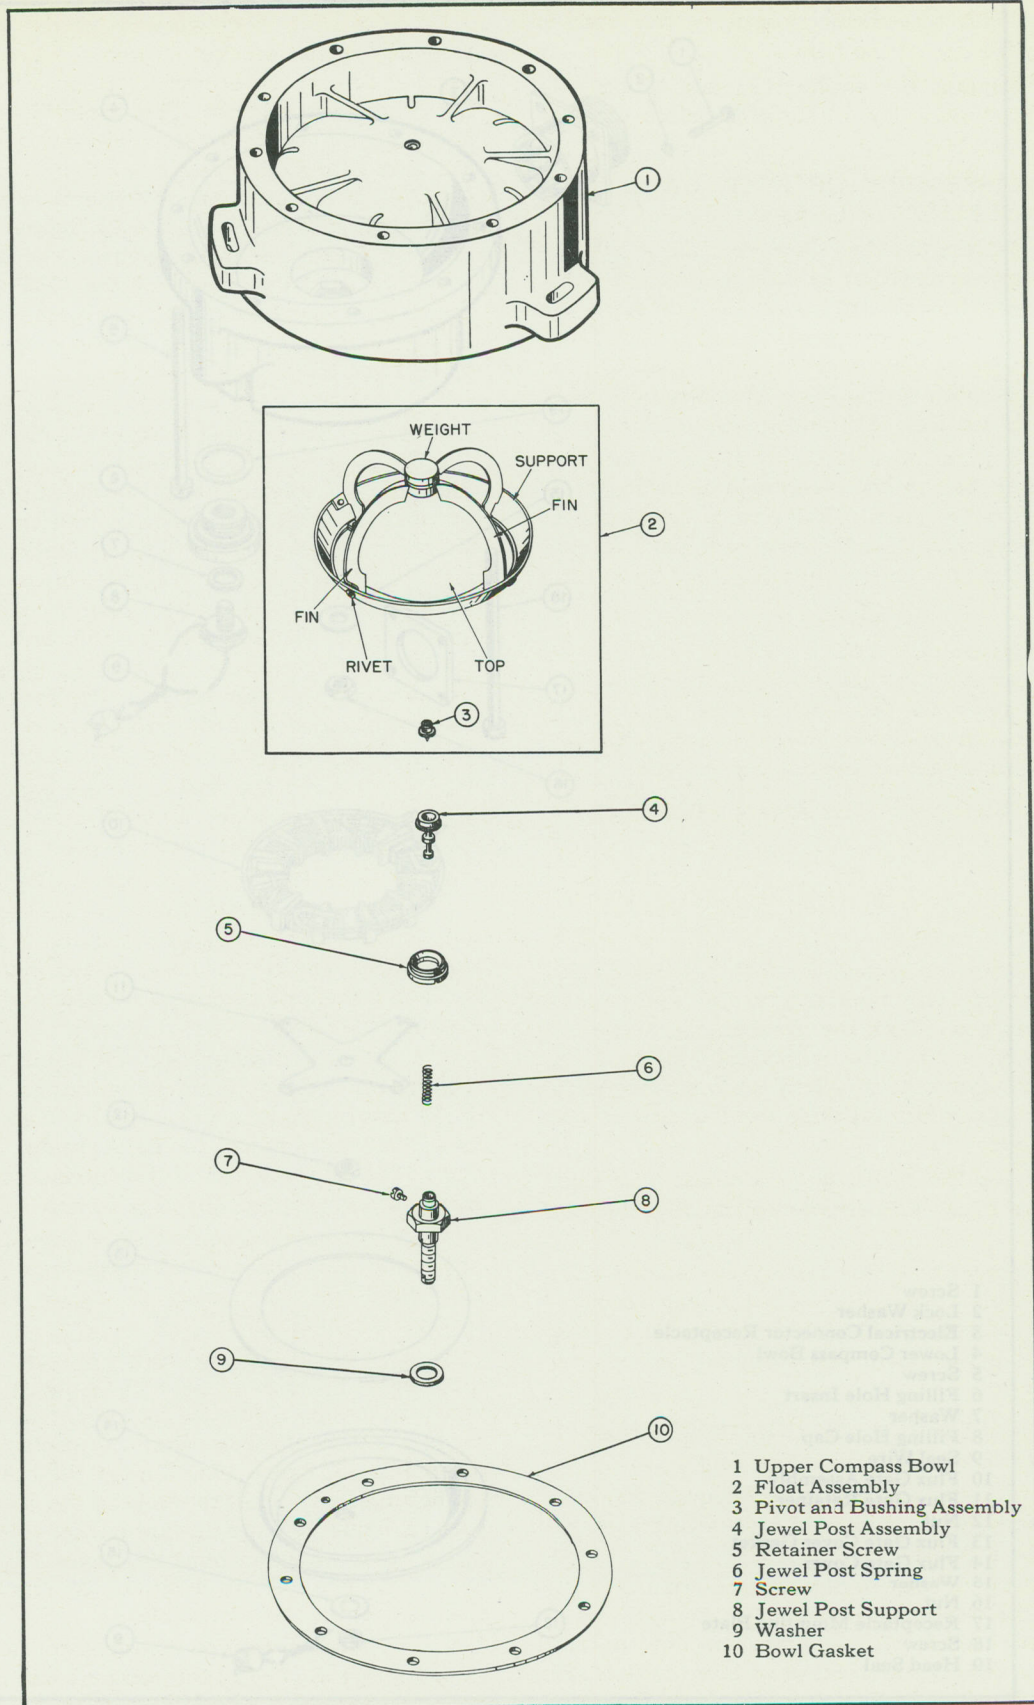
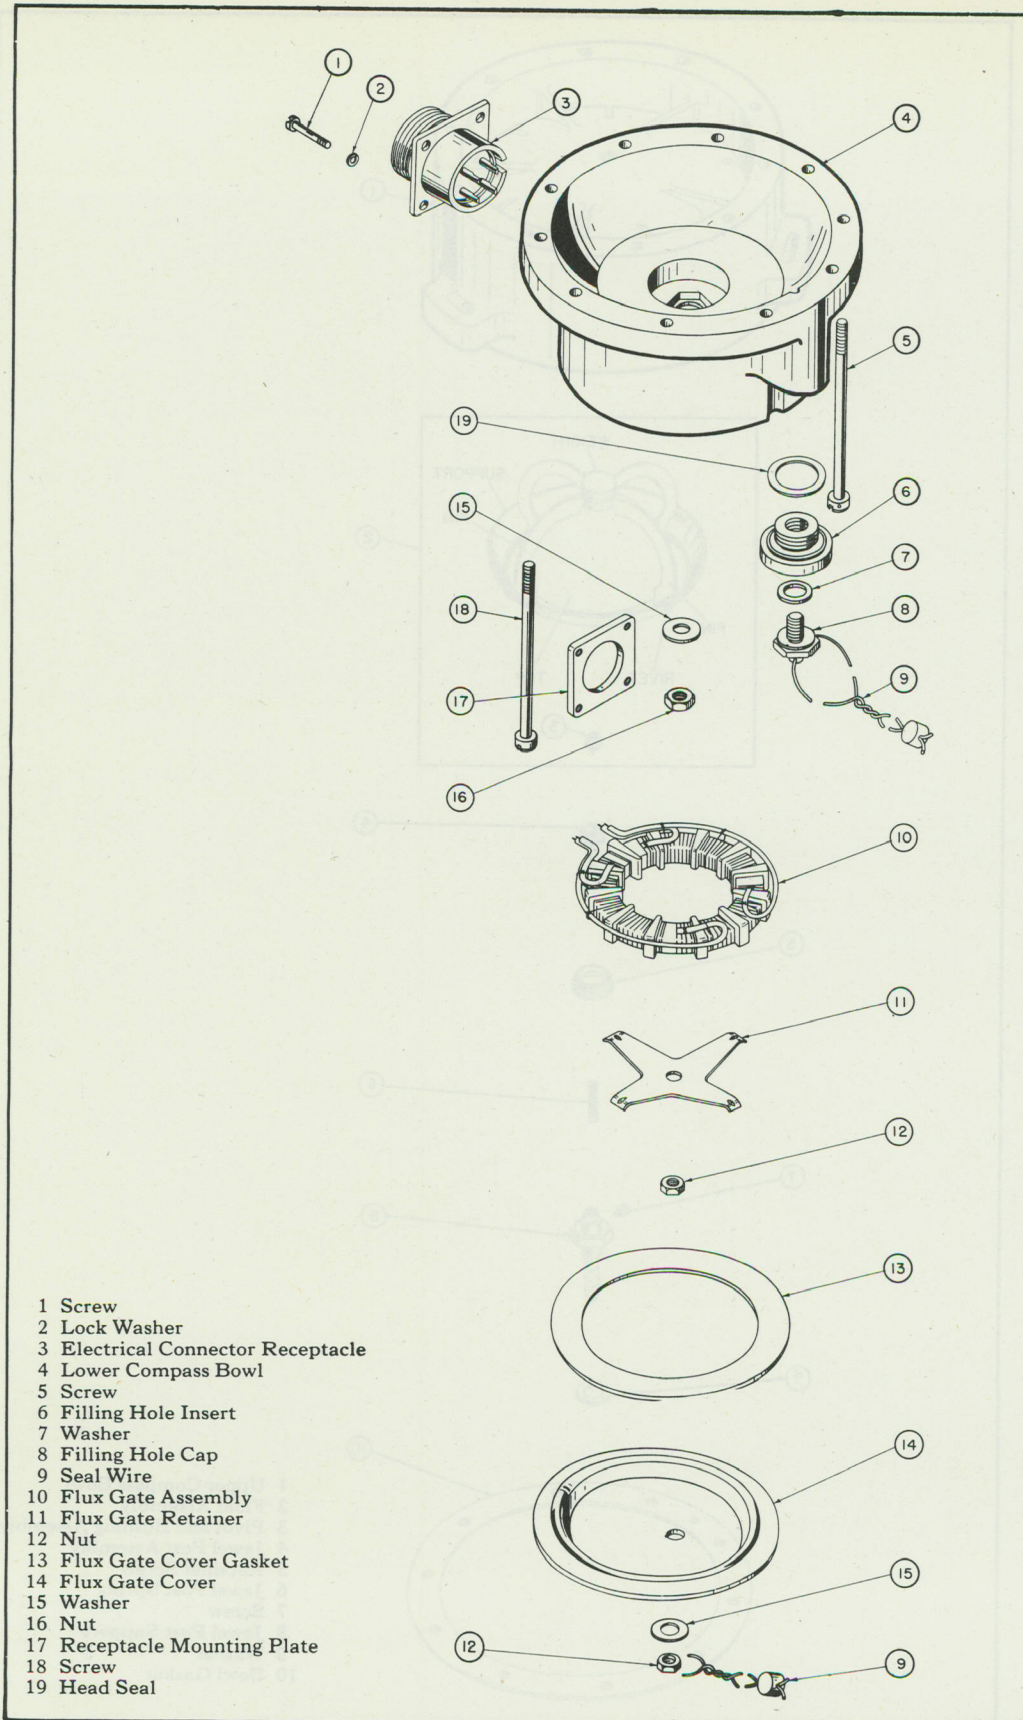

Figure 16—Exploded View Drawing—Main Assembly—Transmitter—Type AN 5730-3
Figure 17—Exploded View Drawing—Main Assembly—Transmitter—Type AN 5730-3
(b) The Float Assembly must be checked for both balance and swinging time before reassembly into the transmitter. Screw the pivot and bushing assembly (3, figure 16) into the bottom of the float, using the float assembly wrench, PQ-8433. Slide the small end of the jewel post assembly (4, figure 16), through the retainer screw (5, figure 16), and secure the jewel post assembly to the float. Mount the float and jewel post assembly on a jewel post support in a glass container filled with compass fluid. Thus, the same condition of balance occurs as in the completed transmitter, including any possible angle or dip. Using a reference line on the glass container, check the float for balance. If it is out of balance, file excess solder from the heavy side. If there is no solder on the heavy side, add a minute quantity to the light side. Add or subtract, as necessary, until the float assembly is in perfect balance within $\pm 2^\circ$.
(1) REASSEMBLY OF FLOAT AND JEWEL POST ASSEMBLIES AND JEWEL POST SUPPORT TO LOWER COMPASS BOWL. (See figure 16.)
(d) Place the washer (9) in the lower compass bowl (4, figure 17). Insert the jewel post support (8, figure 16), with the float and jewel post assemblies attached, through the opening in the bottom of the lower compass bowl.
(e) Place the washer (15, figure 17) over the protruding end of the jewel post support (8, figure 16) and secure the jewel post support to the lower compass bowl with the nut (16, figure 17). Use extreme care when performing this operation to avoid damaging the float and damping fins.
(b) Brush a light coating of cellulose nitrate lacquer, Specification No. AN-TT-L-51, diluted approximately 25 percent with cellulose nitrate thinner, Specification No. AN-TT-T-256, around the bottom edge of the compensator housing (6) and around the top edge of the upper compass bowl (1, figure 16). Place the diaphragm (9, figure 15) between two new impregnated bowl gaskets (8) paragraph c (1) (c) this section, and line up their screw holes using the locating hole provided in each part for that purpose.
(c) By inspection, note the *unequally* spaced mounting bosses on the upper compass bowl (1, figure 16). Place the diaphragm (9, figure 15) with its two bowl gaskets (8) on the top edge of the upper compass bowl so that their locating holes are between the mounting bosses that are closest together.
(e) Brush a light coating of cellulose nitrate lacquer, Specification No. AN-TT-L-51, diluted approximately 25 percent with thinner, Specification No. AN-TT-T-256, on the top edge of the lower compass bowl (4, figure 17) and the bottom edge of the upper compass bowl (1, figure 16).
(f) Place the new impregnated bowl gasket (10, figure 16) (refer to section VI, paragraph c. (1) (c)) on the lower compass bowl (4, figure 17). The locating hole in the bowl gasket will be in line with the boss provided for the electrical connector receptacle (3, figure 17). Place the upper compass bowl (1, figure 16), together with the compensator housing (6, figure 15), over the lower compass bowl. The arrow marked "FORE" will line up with the boss provided for the electrical connector receptacle.
(g) Insert the eight screws (18, figure 17) and two screws (5, figure 17) up through the lower compass bowl (4, figure 17), the upper compass bowl (1, figure 16), and the compensator housing (6, figure 15). Note that there are two screws (5, figure 17) provided with holes for wire sealing. One of them is to be used in a position directly to the left of the filling hole when facing the filling hole. The other screw is to be used in the second position to the right of the boss provided for the electrical connector receptacle when facing this boss. When these two screws are correctly placed, there will be just two screws (18, figure 17) between them.
(h) Place a washer (10, figure 15) over each screw (5, figure 17) and screw (18, figure 17) and secure with the ten nuts (11, figure 15). Tighten the screws as much as possible to prevent leaks between the two compass bowls and the compensator housing.
(3) FILLING OF COMPASS BOWL. (See figure 17.)
(4) REASSEMBLY OF 'FLUX GATE ASSEMBLY. (See figure 17.)
(i) Insert the seal wire (9, figure 17) through the hole in the filling hole cap (8, figure 17) and directly up to the screw (5, figure 17) in position "5," reading counterclockwise from the electrical connector receptacle (3, figure 17). Thread the other seal wire (9, figure 17) through the hole in the jewel post support (8, figure 16) and up through the two small holes in the lower compass bowl (4, figure 17) to the long screw (5, figure 17) in position "2," reading counterclockwise from the receptacle.